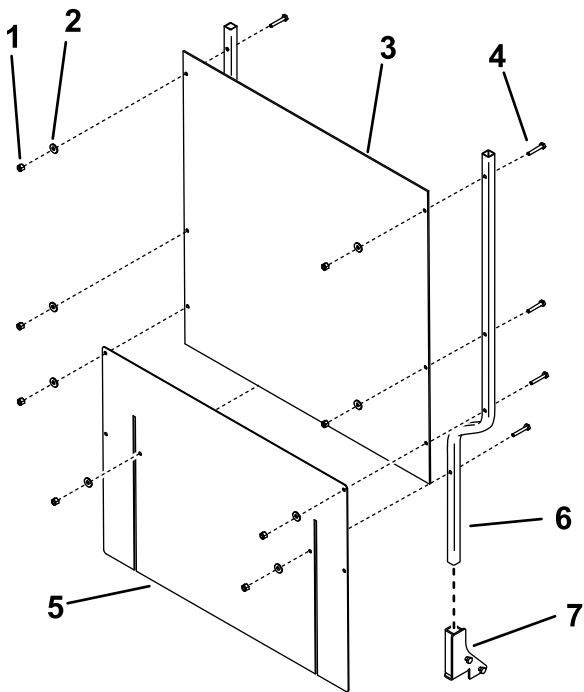

Figure 9
- Slide the shield supports into the pockets in the shield brackets on the traction unit (Figure 8 or Figure 9).
- Assemble the shield and flexible skirt to the shield supports as illustrated in Figure 8 or Figure 9, using 8 bolts (1/4 x 1-1/2 inch), 8 washers, and 8 locknuts (1/4 inch).